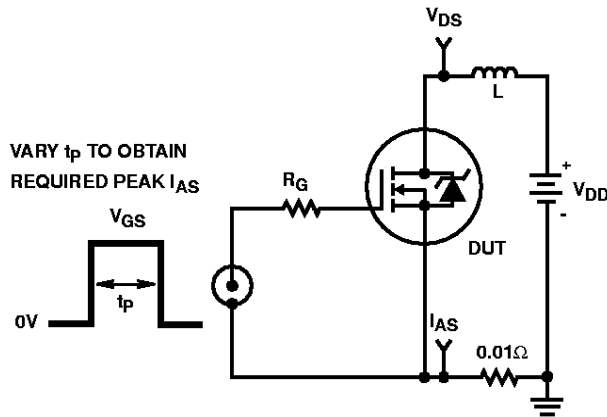

FIGURE 15. UNCLAMPED ENERGY TEST CIRCUIT
4.  $V_{DD} = 50\text{V}$ , starting  $T_J = 25^\circ\text{C}$ ,  $L = 1.1\text{mH}$ ,  $R_G = 50\Omega$ , peak  $I_{AS} = 33\text{A}$ . (Figures 15, 16)